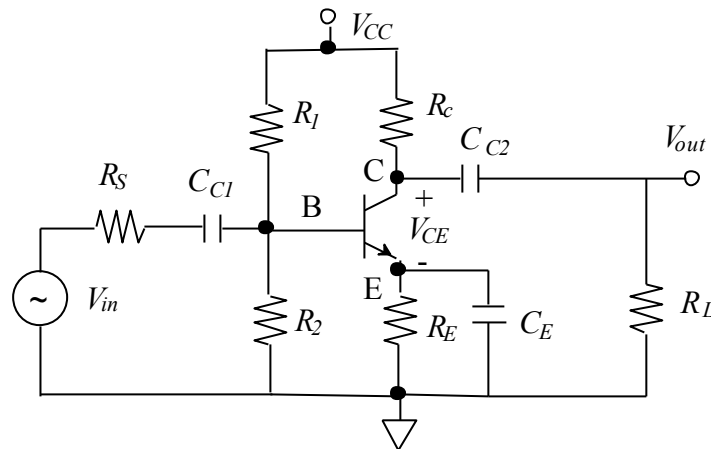

Figure 1
A single stage common –emitter amplifier is shown in Figure 1. The biasing circuit consists of two resistors  $R_1$  and  $R_2$ . It is called self-biasing technique that allows us to use a single power supply. The resistance  $R_E$  is necessary to improve the stability of the amplifier, but on the other hand it reduces the gain. Therefore, a capacitor is connected across  $R_E$  to preserve the DC characteristics of the amplifier while eliminating the negative effect of the  $R_E$  on the gain in AC operation. This capacitor is called bypass capacitor  $C_E$ . Other capacitors  $C_{C1}$  and  $C_{C2}$  are used to block the DC current from going in and out of the amplifier stage. This is necessary to maintain
The figures below show equivalent circuit for the amplifier shown in figure 1-a. To determine the upper and lower 3dB points from the equivalent circuit use the superposition theorem to obtain the time constant due to the presence of each capacitance in the circuit. The time constant of the capacitor  $C_i$  is given by
- 1- Build the circuit shown in Figure 1 using the following components listed in the table below
- 4- In Fig.1 (a)  $C_E = 0.1 \mu\text{F}$ . This value is changed to  $22 \mu\text{F}$  in step 5. Based on your theoretical knowledge, how do you expect the lower 3 dB to change when  $C_E$  is increased to  $22 \mu\text{F}$ ?